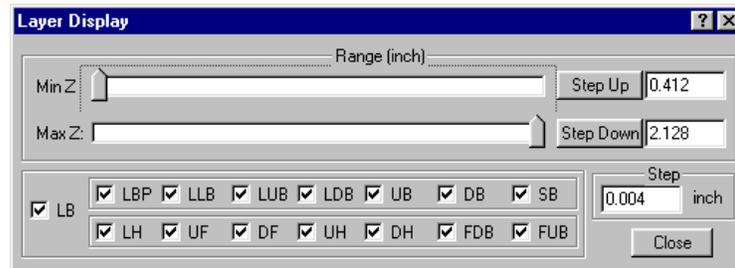

Figure 121. Layer Display Box
1. Once you have "sliced" (prepared) your parts and loaded a BFF into the workspace, click the "Layer"...  icon ...or select "Properties/Layer..." from the "View" pull-down menu. The "Layer Display" dialog appears as shown in Figure 121.